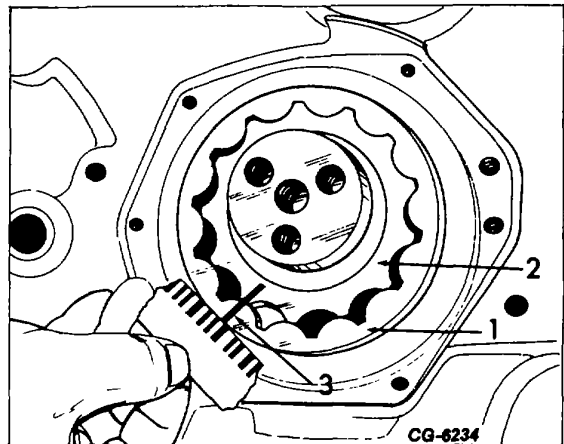

Figure 10. - Checking End Clearance
- a. Place a strip of Plastigage (3, Fig. 10) onto rotors and cover with housing, using a new "O" ring in groove.
- e. Remove the Plastigage and outer rotor (1).